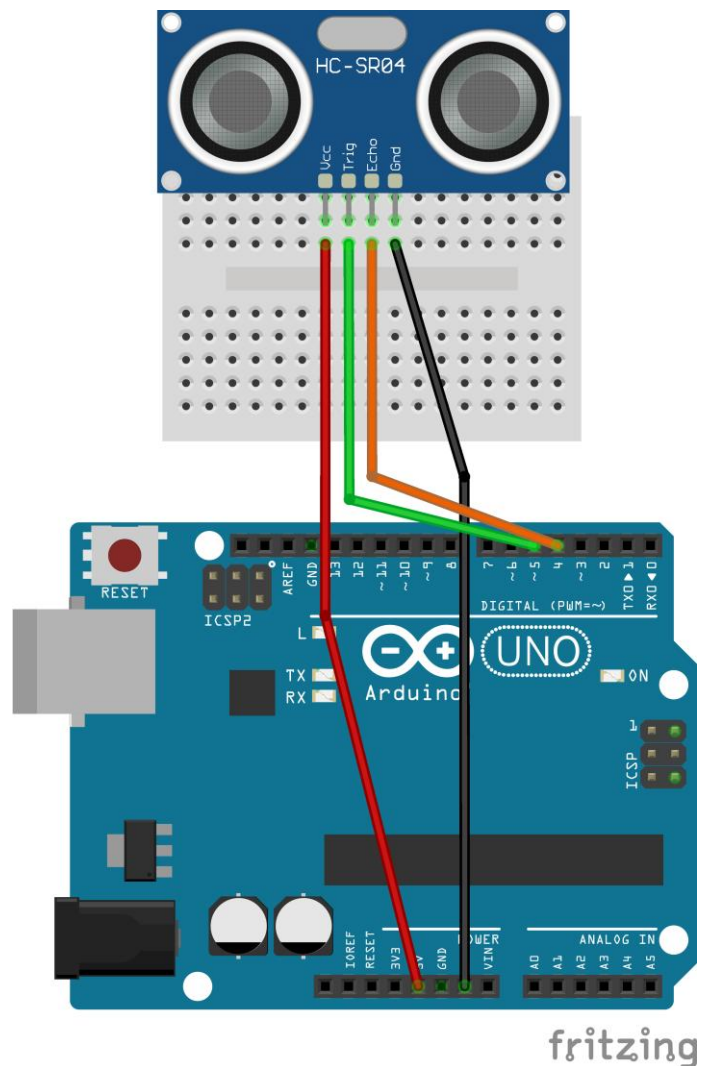

Figure 1: *Hardware Set-Up for Ultrasonic Sensor Exercise*
The exercise involves connecting an HC-SR04 ultrasonic sensor to an Arduino Uno to measure distance, see Figure 1.
1. Connect the ultrasonic sensor directly to the breadboard (as shown in the Figure 1)